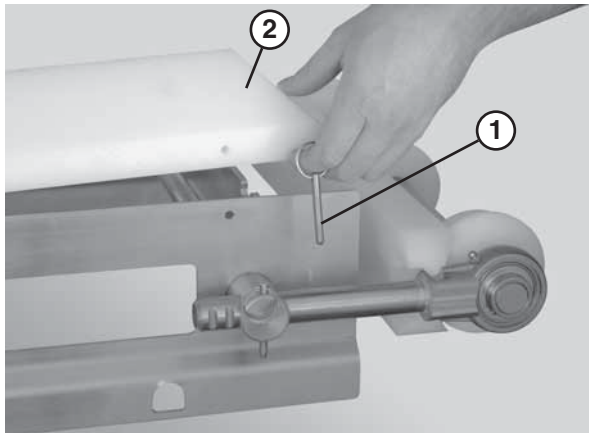

Figure 58
1. Remove the guides, if applicable, by removing the pull pins (**Figure 58, item 1**) that connect the guide (**Figure 58, item 2**) to the frame.
1. Remove the pull pins (Figure 58, item 1) that connect the guide (Figure 58, item 2) to the frame.